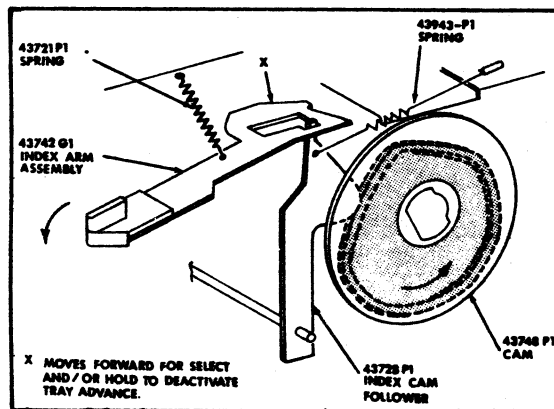

Figure 5. TRAY INDEX-CAM #2
- b. At the same time, tray index cam #2 (Fig. 5) starts to move index arm into position but comes to dwell until slide is lifted.